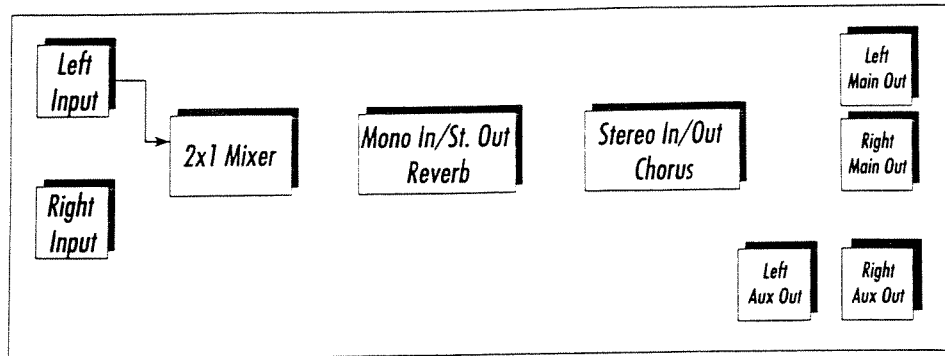

Fig. 3-4.
3. Press the Parameter <+> button once. The top line of the display changes to read LEFT INPUT. The left input of the TSR-24 is now connected to input 1 of the 2x1 mixer Module. The Algorithm routing at this point in the Linking stage looks like figure 3-4.